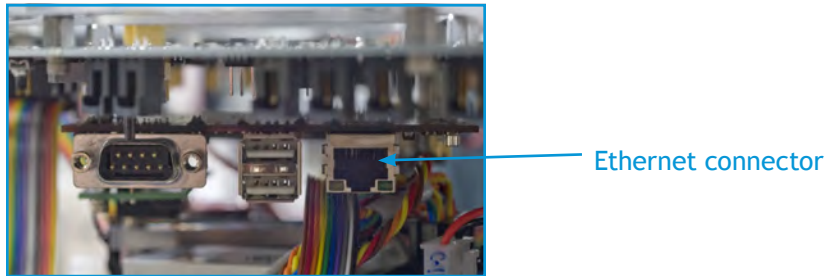

Figure 1-4: Ethernet connector
2. Plug the Cat 6 Ethernet cable from the network to the ESP. See Figure 1-4.